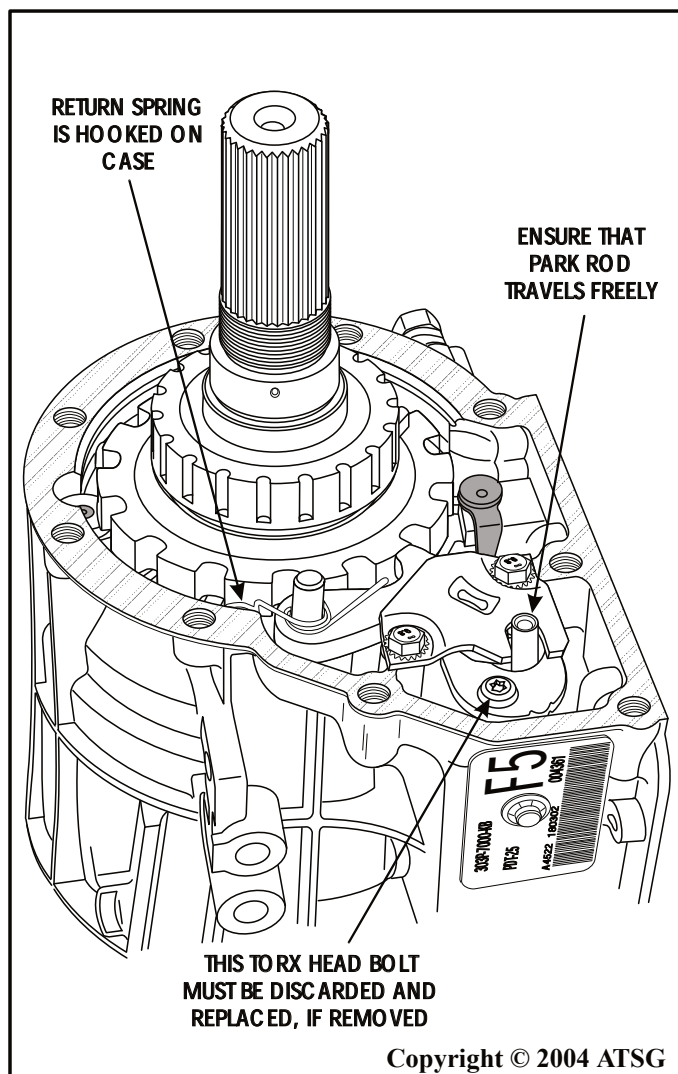

Figure 66
24. Before installing extension housing, ensure that park pawl return spring is hooked behind the case, and park rod operates freely through the guide plate (See Figure 66).
25. The Torx head bolt retaining the parking pawl abutment plate, shown in Figure 66, has thread locking compound and should not be removed unless damage is apparent.